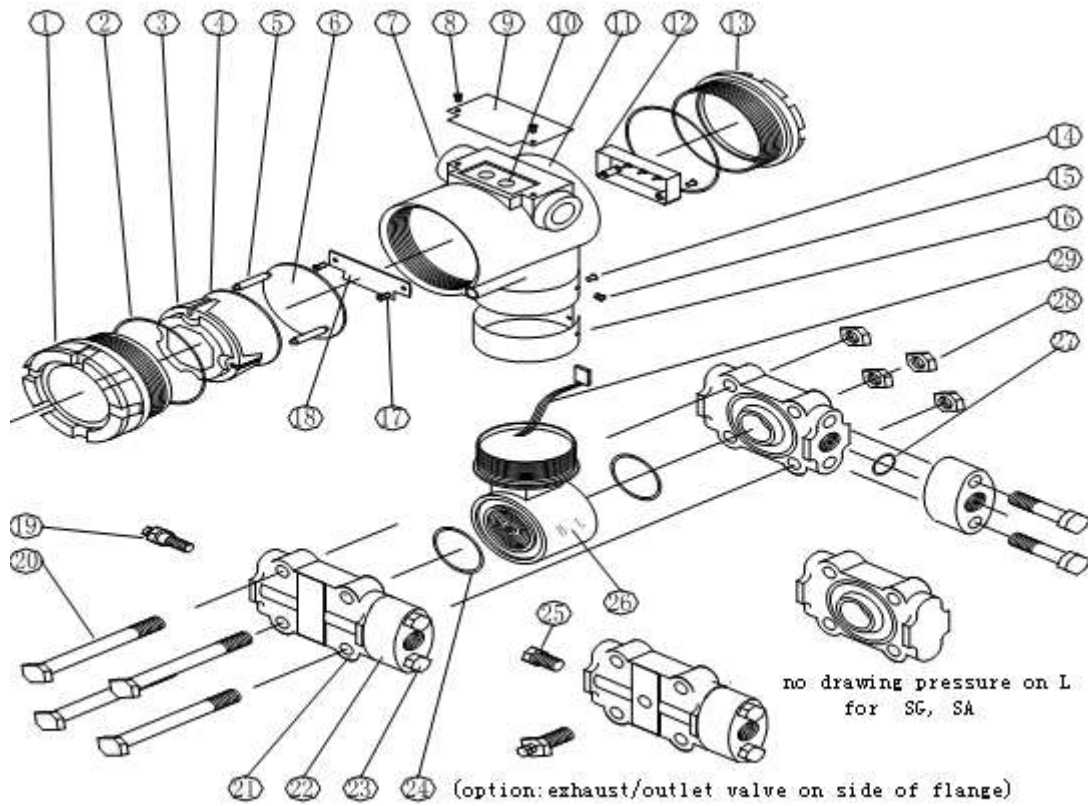
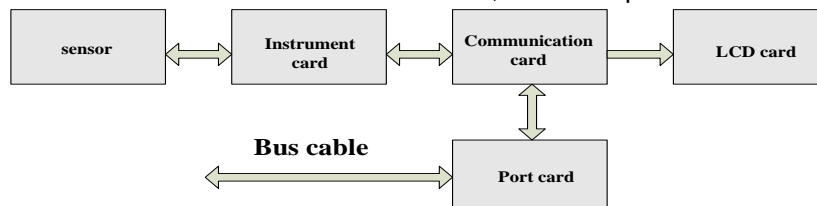

Figure 1-2 Smart Transmitter Structure
Figure 3-1 Structure
- Smart Transmitter Structure shown as Figure 1-2:
The logical structure of smart transmitter, which is the same, can be divided into five parts: sensor, instrument card, communication card, LCD card and port card, as Figure 1-2 and Figure 3-1 shows. The FF, PA Smart Transmitters are identical in terms of hardware due to the same physical layer specification, the communication card and port card of the FF, PA Smart Transmitters are different from those of Hart, but other parts are the same.